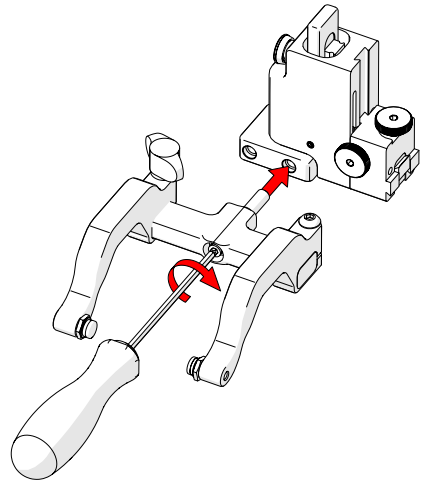

Fig. 125 - Screw into threaded hole
7. Screw the yoke to the probe holder (Fig. 125).